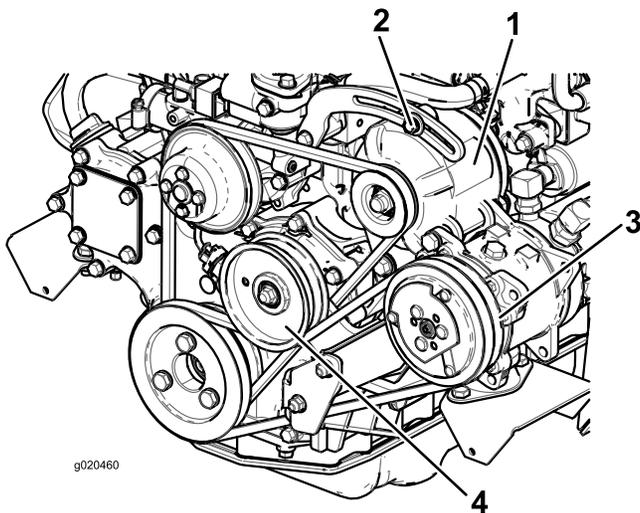

Figure 76
If the deflection is not 10 mm (3/8 inch), loosen the alternator-mounting bolts (Figure 76).
2. If the deflection is not 10 mm (3/8 inch), loosen the idler pulley mounting bolt (Figure 76).